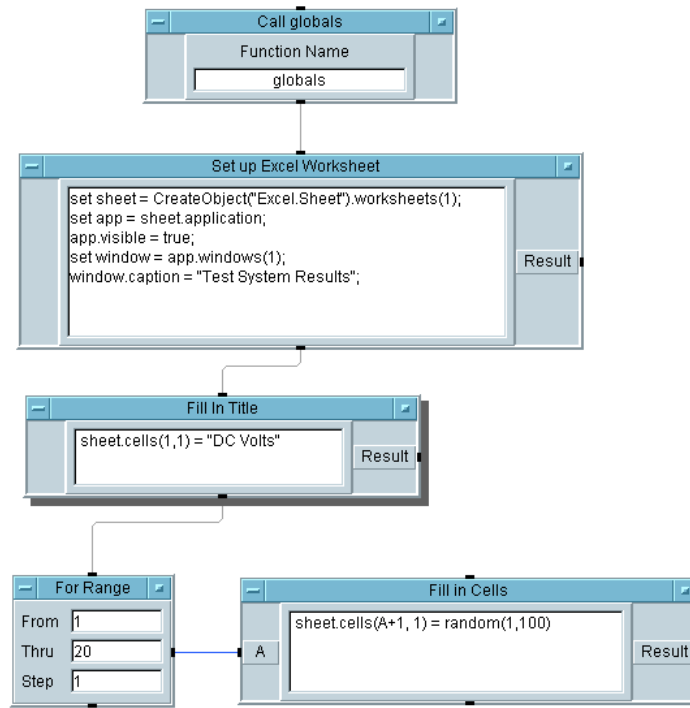

Figure 6-7. Adding the Title and Data to the Sheet
9. Create a `Formula` object (under `Device` \Rightarrow `Formula`). Clone the `Formula` object to create a second `Formula` object. Create a `For Range` object (under `Flow` \Rightarrow `Repeat` \Rightarrow `For Range`). Rename the objects, connect them, and configure them as shown in Figure 6-7. (Be sure to delete the input terminal on the `Formula` object `Fill in Title`.)